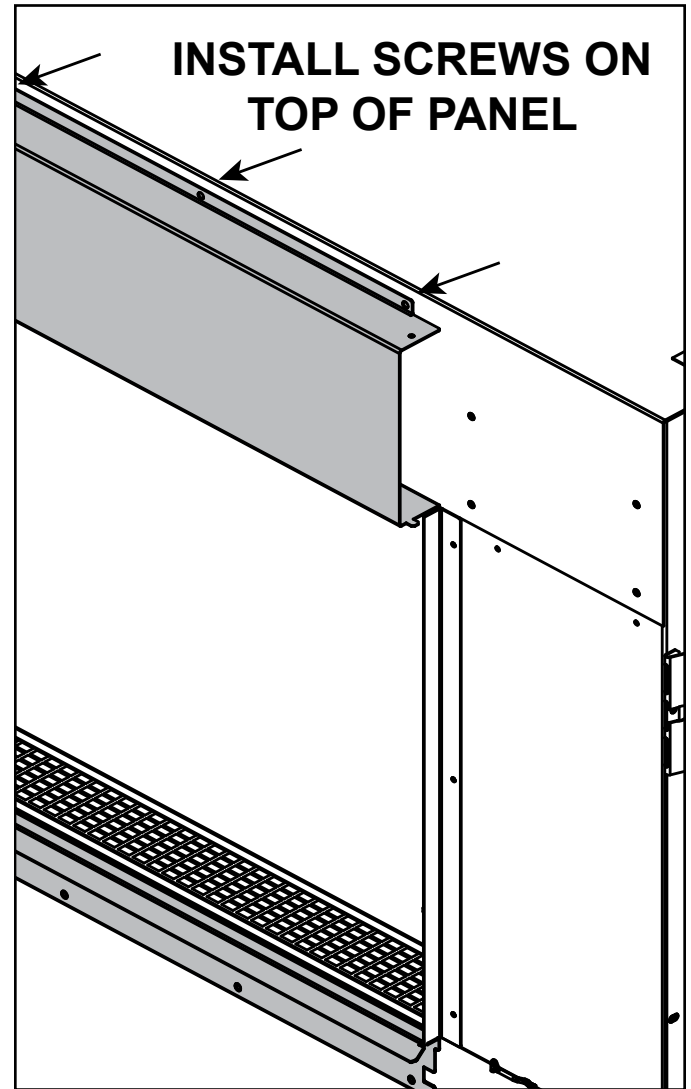

Figure 8 Top Right Panel Alignment
2. Install the top right panel by aligning the bottom ledge of the panel with the side sheetrock ledge as shown in Figure 8. Install the screws in the top flange of the top right panel.